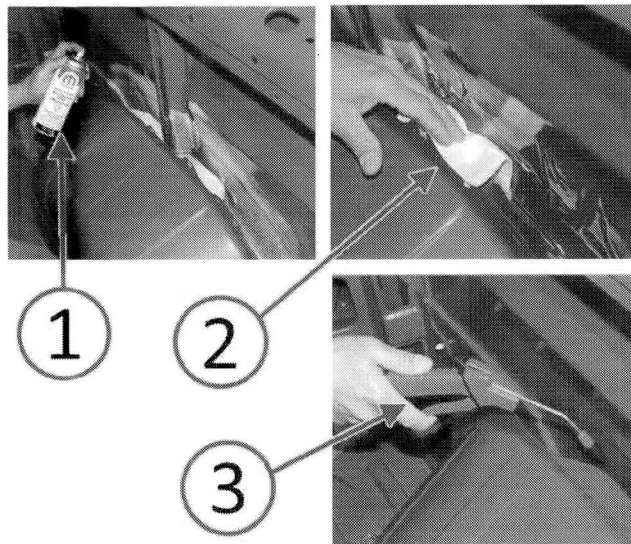

Fig. 2 Clean Wheelhouse Seam
3. Apply MOPAR Glass Cleaner or equivalent (1) around the wheelhouse (Fig. 2).
4. Clean the wheelhouse seam area (2) wiping away dust and debris (Fig. 2).
5. Air dry the wheelhouse seam (3) before applying seam sealant (Fig. 2).